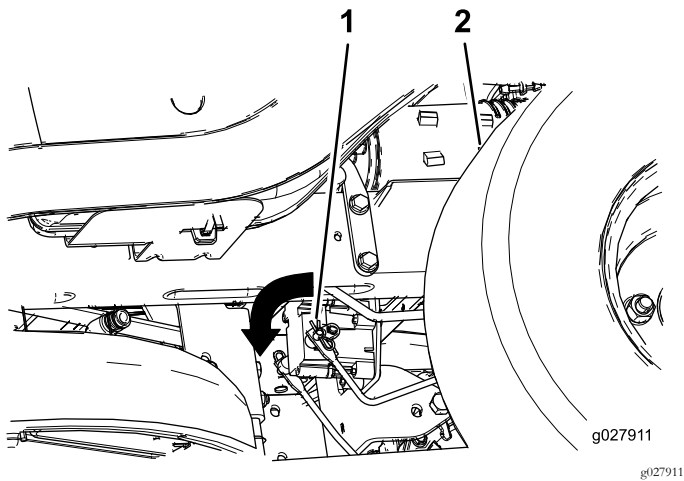

Figure 50
3. Locate the shaft on the electric brake where the brake link arms are connected (Figure 50).